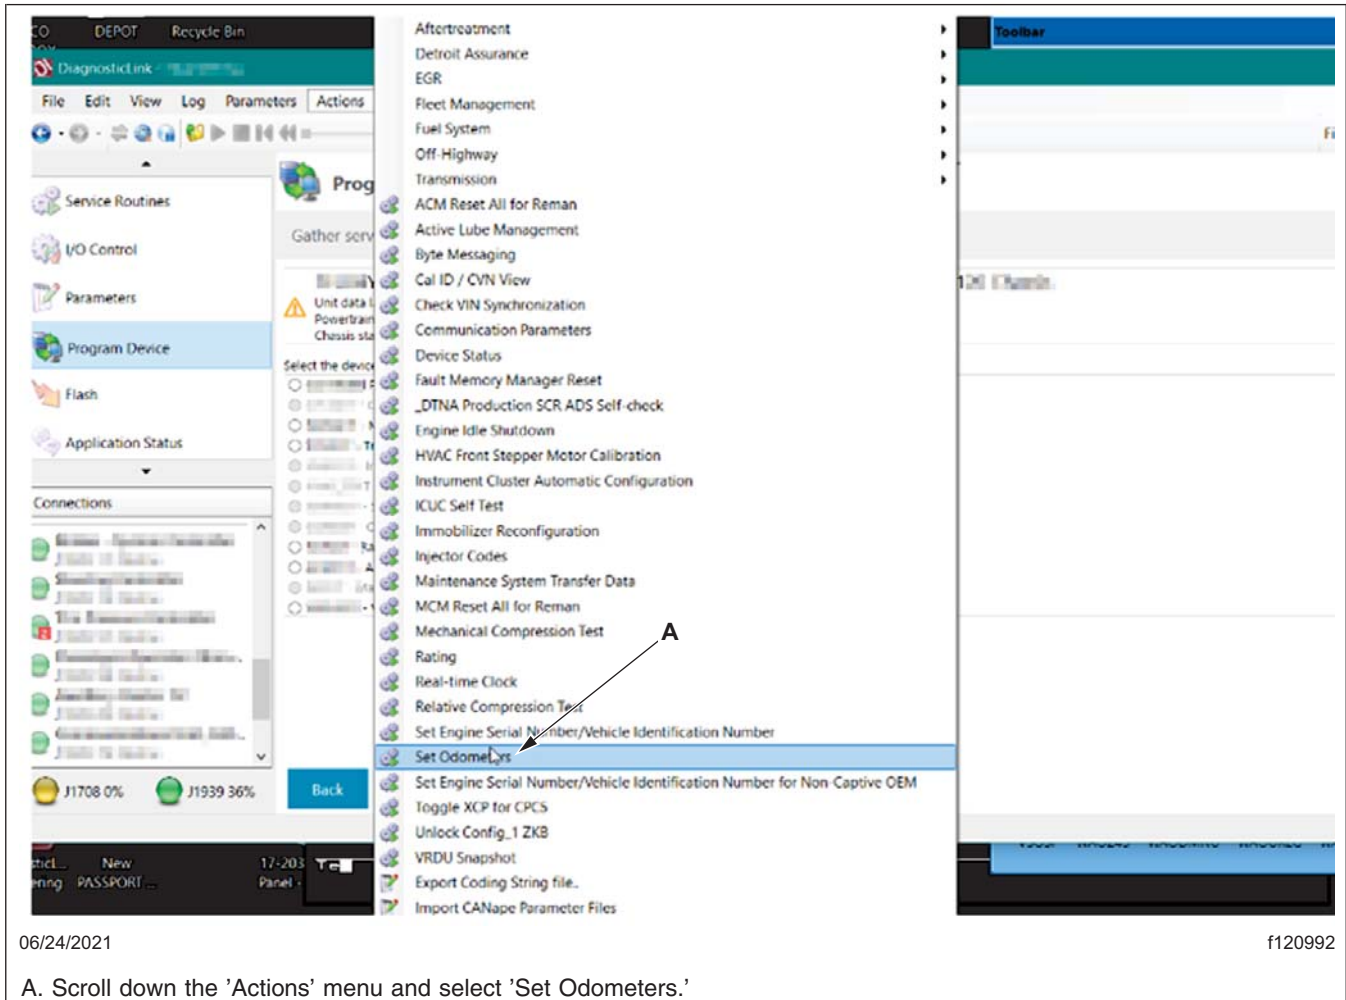

Fig. 15, Setting the Odometer
19. Select the 'Actions' menu and scroll down and select 'Set Odometers,' as shown in **Fig. 15**.